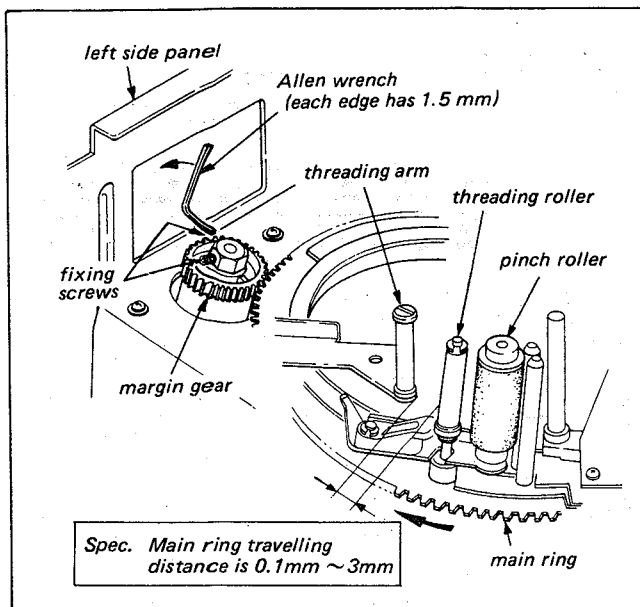

Fig. 4-9. Margin gear position adj. (EJECT mode)
2. Check to see that the Main Ring moves by 0.1 mm ~ 3 mm when the Main Ring is pushed with finger in the direction shown by the arrow in Fig. 4-9.
If not, loosen the two screws with allen wrench shown in Fig. 4-9 and rotate the Margin Gear for the correct margin of 0.1 mm ~ 3 mm.